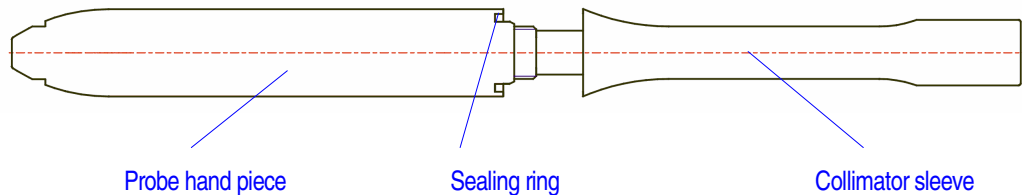

Fig. No.3: Hand probe CXS-OPSZB
The housing of the surgical probe is made of surgical stainless steel with a tungsten collimator inside the tip of the collimator sleeve. The collimator sleeve can be screwed off (Fig. No. 3).
- The collimator sleeve (see Fig. No.3, page 5) can be screwed off and further sterilized with one of the usual methods (plasma sterilization, 150°C water vapor at 4 bar). The cable and hand piece must be coated for intra operative application with a sterile protective coating. The transition between sterile sleeve and the protective coating is covered with a sterile tape.
A circular sealing between the collimator sleeve and hand piece (see fig. No. 3, page 5) prevents a penetration of fluids. If it is necessary to clean the detector head, make sure the sealing ring is put back in place. The collimator sleeve must be screwed firmly to the hand piece, without using any mechanical tools. This is the only way to guarantee the function of the sealing ring.